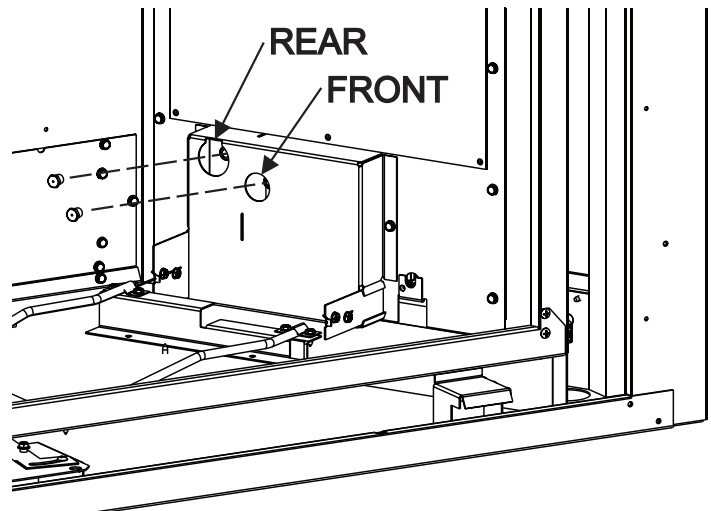

Figure 5
8. Use a 7/16 inch deep socket set to install orifice marked "1.4" in rear orifice holder and "#51" in front orifice holder. **See Figure 5.**